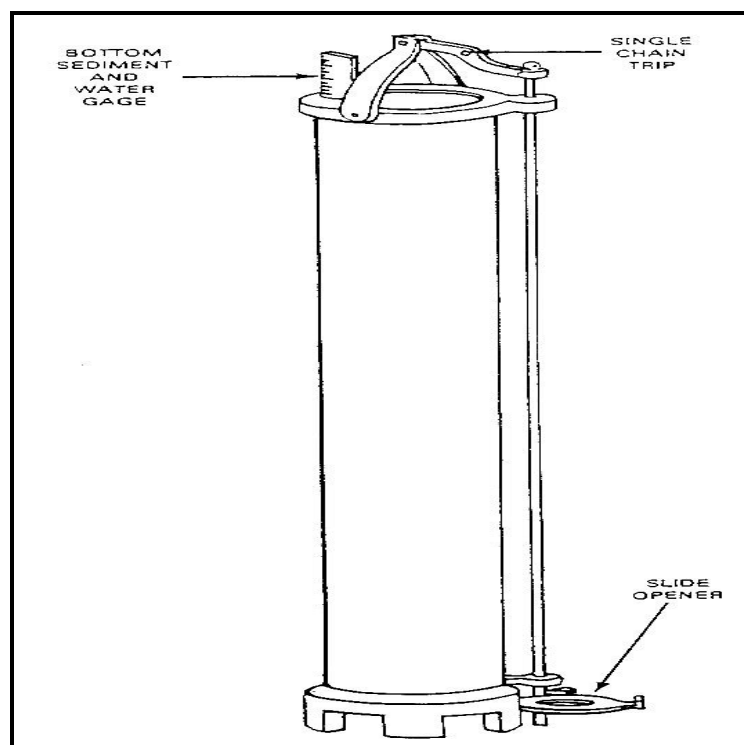

Figure 3-25. Tubular tank thief
- **Tubular Tank Thief (Tulsa Thief).** The tubular tank thief or Tulsa thief (Figure 3-25, page 3-27) is a bottom sampler. It is best suited for taking heavy bottom samples in storage tanks. A chain is used to open the sampler at any depth in the tank.